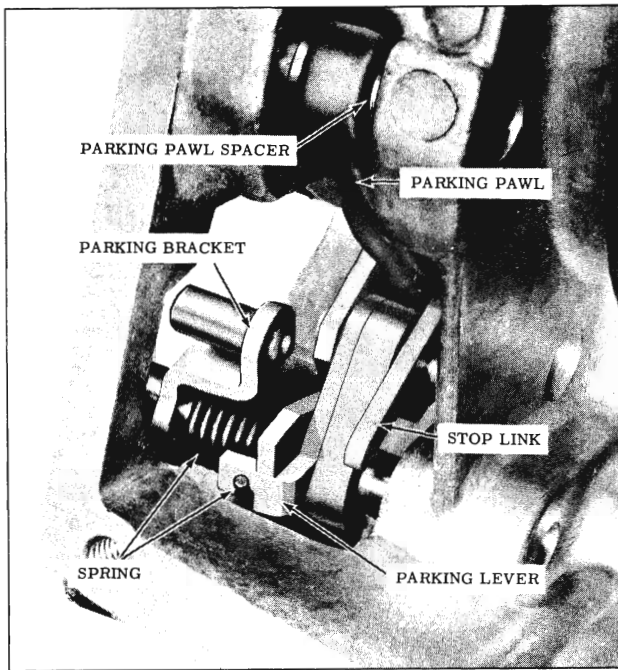

Fig. 3-105 Parking Pawl Assembly
#### **PARKING PAWL LINKAGE (Fig. 3-105)**
5. Hook spring on parking lever, holding stop against pin. (Fig. 3-105)